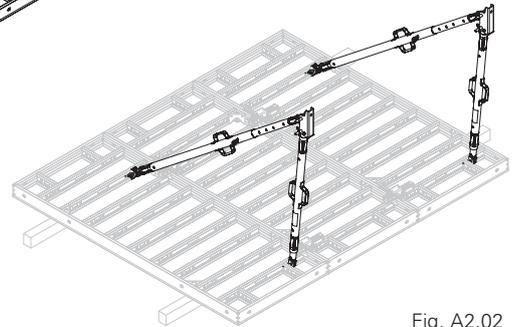

Fig. A2.02
2. Mount Push-Pull Props according to the valid width of influence. (Fig. A2.02)